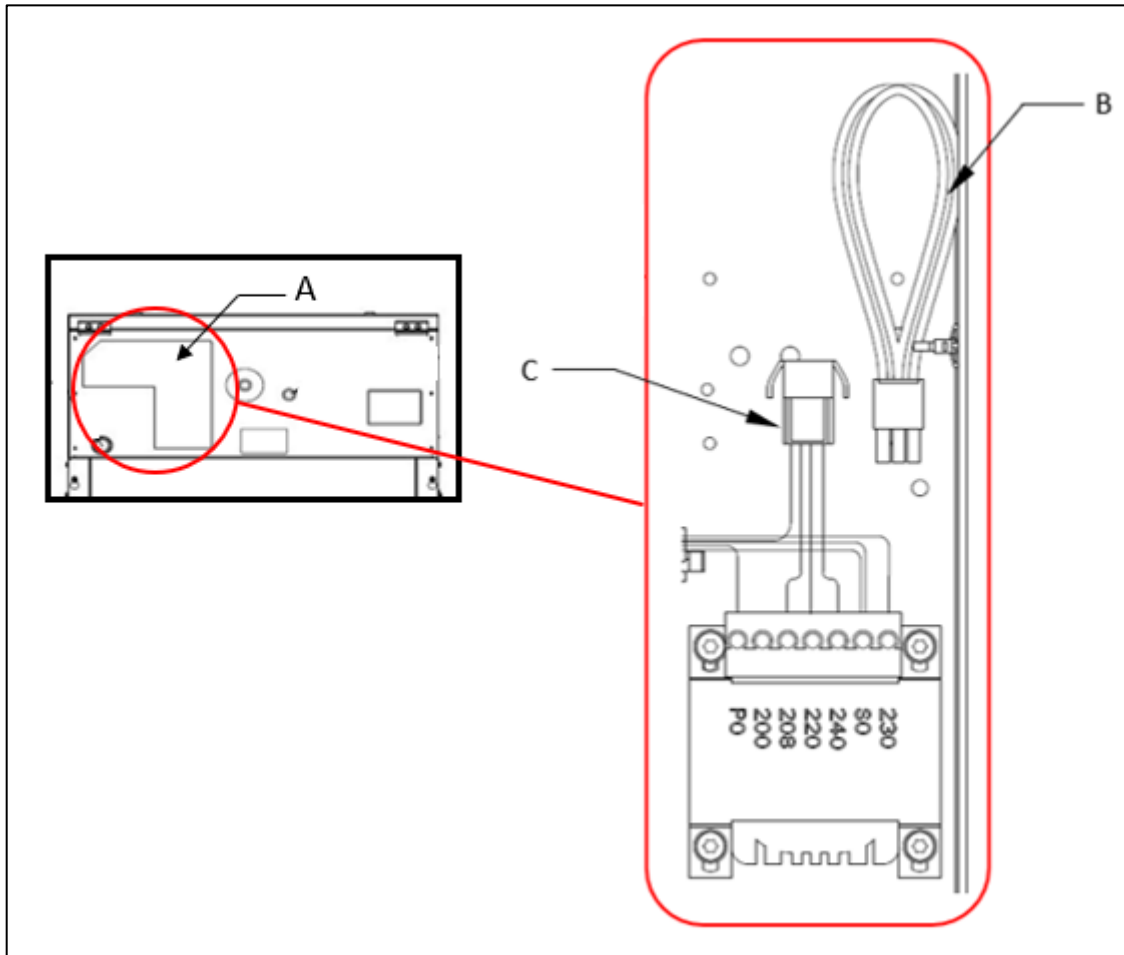

Fig. 3.8
- Remove the support cover (A) from the junction box located on the rear panel (Fig. 3.8).
- Connect the voltage selector (B) onto the transformer connector (C) in accordance with the power supply and with the accompanying table (Table 1).